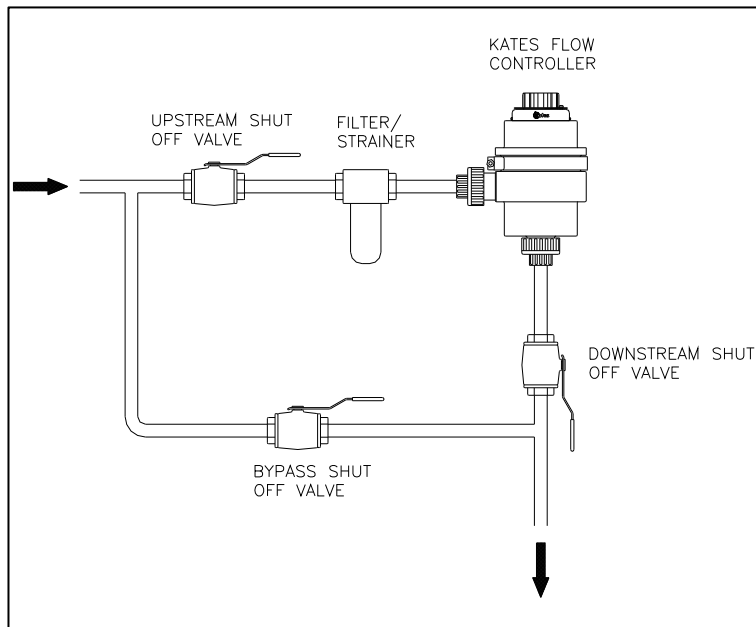

Figure 2
2. Upstream and downstream shutoff valves and a bypass valve should be installed so that the controller may be opened for inspection and cleaning without requiring complete system shutdown.(See figure 2)
5. Place the controller in service by opening upstream and downstream shut off valves and closing the bypass valve around the controller. Use caution; during start-up, open valves slowly to avoid pressure surges. The controller will now regulate the flow rate at the set value. (See figure 2)
2. It is not necessary to remove the controller from the line to clean. If installation includes proper shutoff and bypass valves, operate these and take the controller off stream or control. (See figure 2)